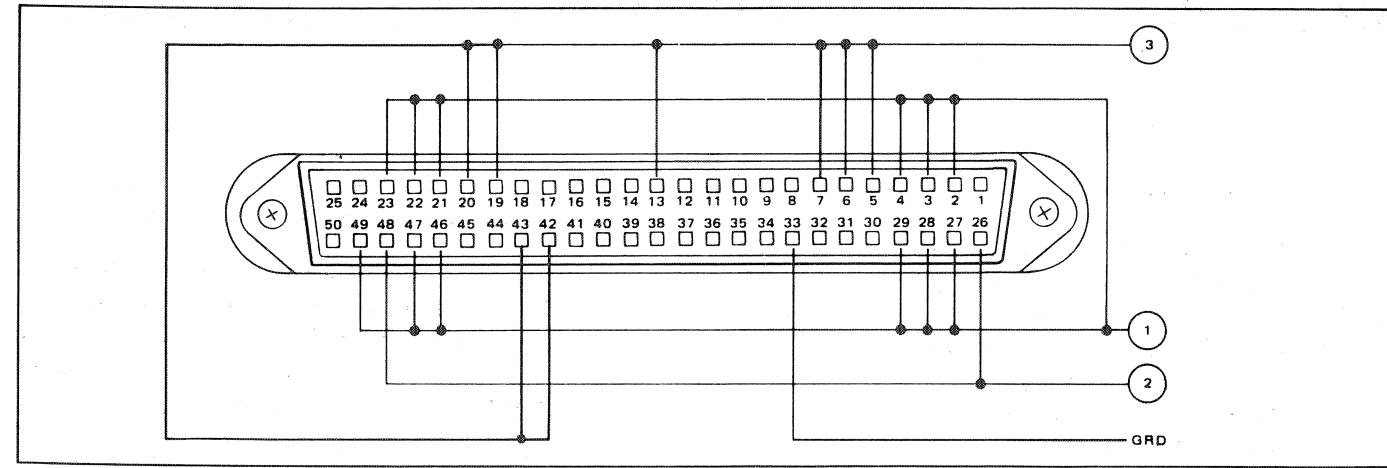

Figure 4.1 - Jumper Assembly
4.4 The jumper assembly consists of a mating connector (Dana P/N 600047) for programming connector J113 having the required pins hard-wired together for the various calibration steps. This same operation can be performed with individual clip leads but with considerably more difficulty. The wiring of the jumper assembly is shown in figure 4.1.
- c. Connect jumper strings #1 and #2 as shown in figure 4.1 to pin 33 (GRD) of J113. Monitor R125 (channel A) and adjust potentiometer R35 for a reading of +2.84 volts DC; monitor R127 (channel B) and adjust potentiometer R37 for a reading of +2.84 volts.
Jumper Assembly	– see figure 4.1